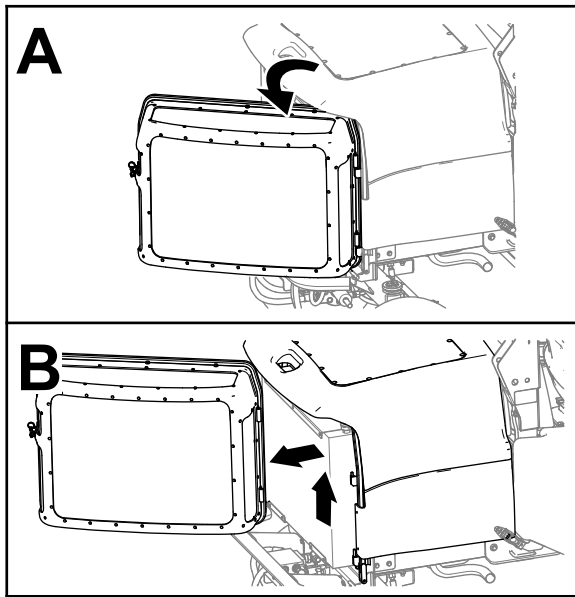

Figure 65
3. Unlatch the engine screen, open it, and lift it from the machine (Figure 65).